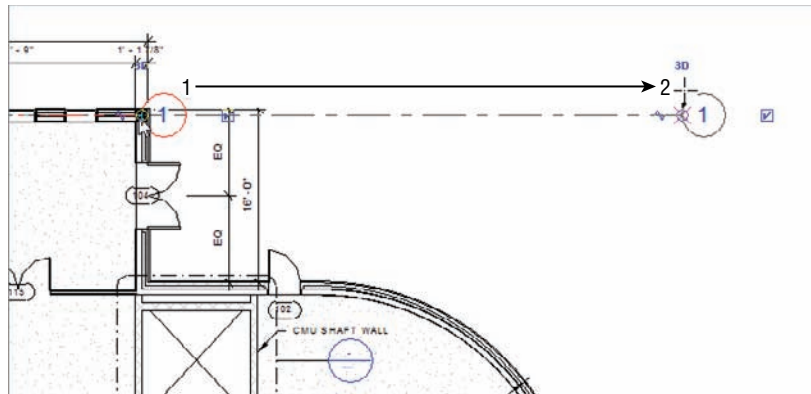

FIGURE 8.4 Dragging the column bubble to the right
- Pick that round blue grip, and drag the column bubble to the right about 15'-0" (4500mm), as shown in Figure 8.4.